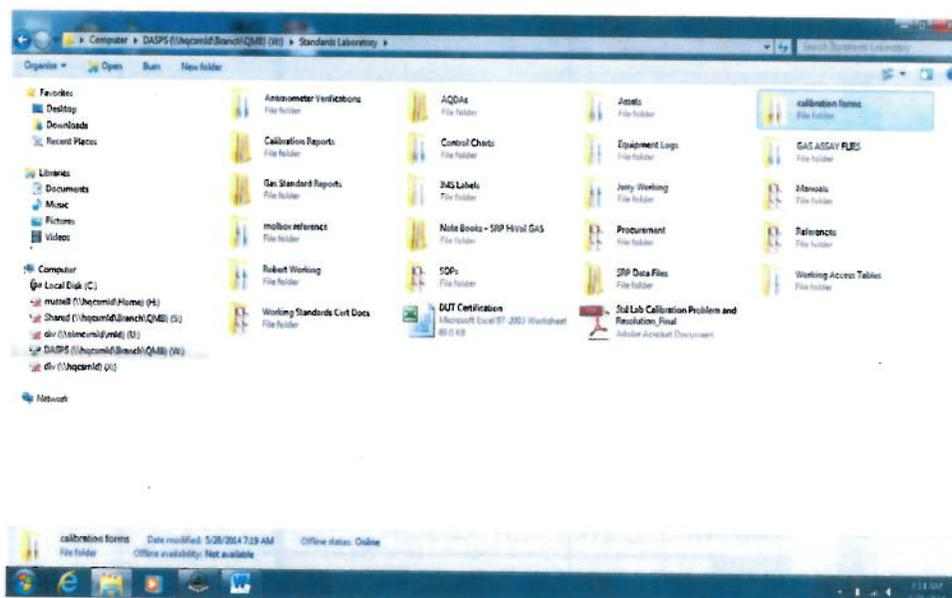

Figure 7
11.7 Double-Click on the “Calibration Forms” folder. See Figure 7.